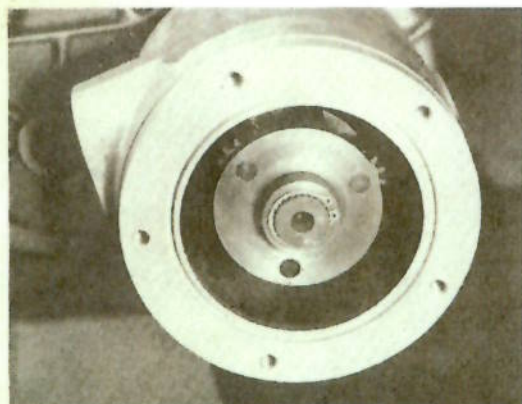

FIG. 23 - PINION GEAR CAGE ASSEMBLY SECURED ON INPUT SHAFT BY SNAP RING.
41. Install the pinion gear cage (P/N 103) with assembled parts on the input shaft. Slide the assembly forward to expose the snap ring groove near the end of the shaft. Install a snap ring (P/N 1027) in the groove. (Fig. 23)